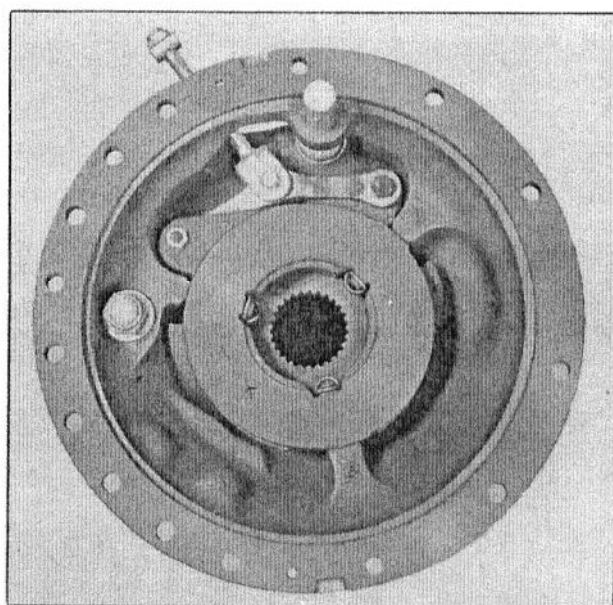

Fig. 9 - Actuating Disc Assembly in Position
2. Install the actuating disc assembly in the axle housing. If the brake lever support has been left on the axle housing, slide the pull rod thru the brake lever. Place the adjusting block on the pull rod and start the adjusting nut. Refer to Fig. 9.